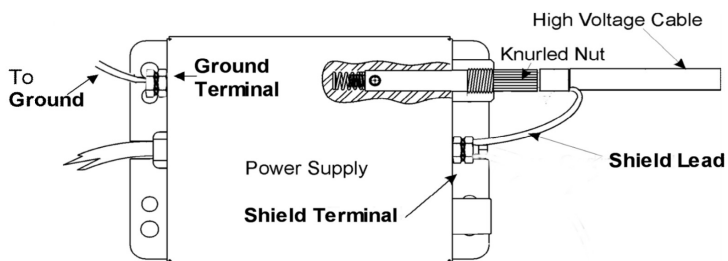

Figure 3
5. Connect a ground wire to the ground terminal of the power supply. (See Figure 3 & 4 for ground terminal location)
2. Insert SLCC high voltage connector in female port on the power supply and finger-tighten (see Figures 3 & 4).
3. For TrueAC, connect shield wire to shield terminal of power supply (see Figures 3 and 4)
2. For TrueAC, remove shield wire of cable assembly from shield terminal (see Figures 3 & 4).
Short bar sensor return to ground	Make sure all bar connections comply with figures 3 & 4, and there are no ground connections to the Shield terminal. If all connections are correct, then replace the bar.